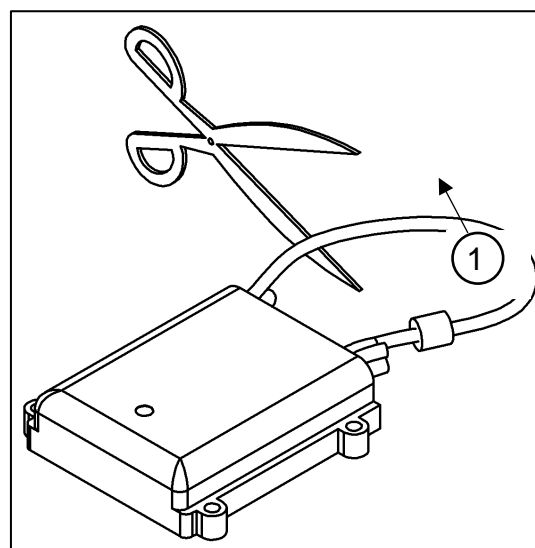

Fig. 21
- Sever the control unit cable (1, red marking with cable tie) for connecting the handheld control (see Fig. 21) Leave the end without a cable tie blank.